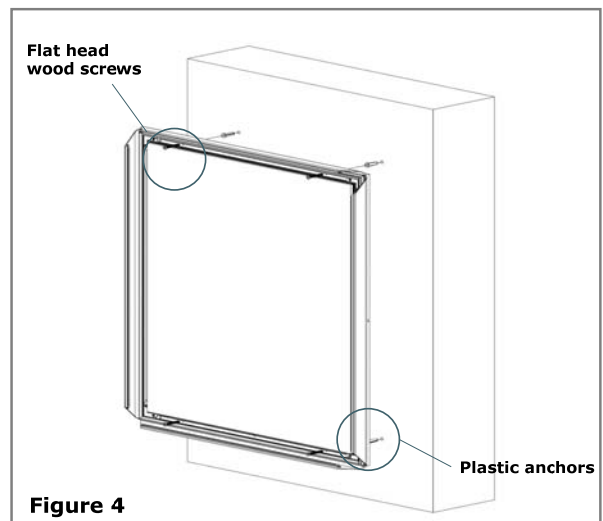

Figure 4
4. Using a 1/4" or 3/16" drill bit, drill the holes and install plastic anchors (included in mounting kit). **See Figure 4.**